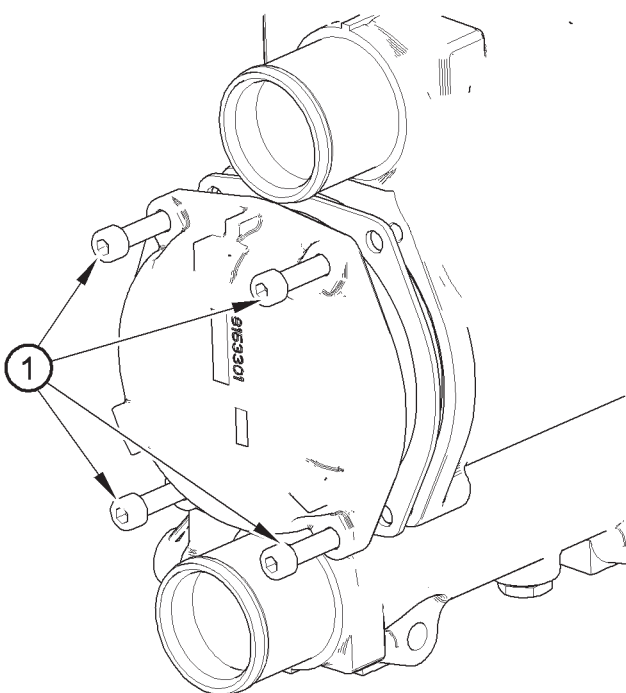

Figure 15
5. Remove the endcap by undoing the bolts (figure 15 item 1).